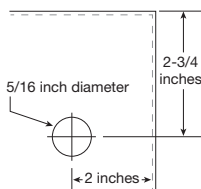

Figure 4
10. Drill 5/16 inch hole in the roof curb at the dimensions indicated in Figure 4.